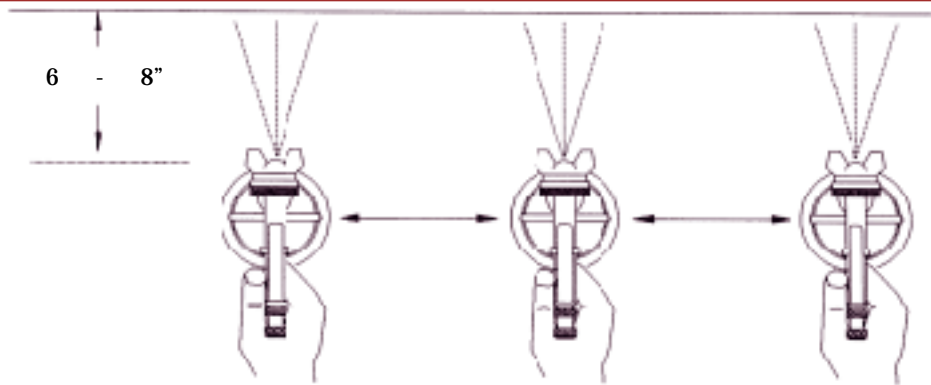
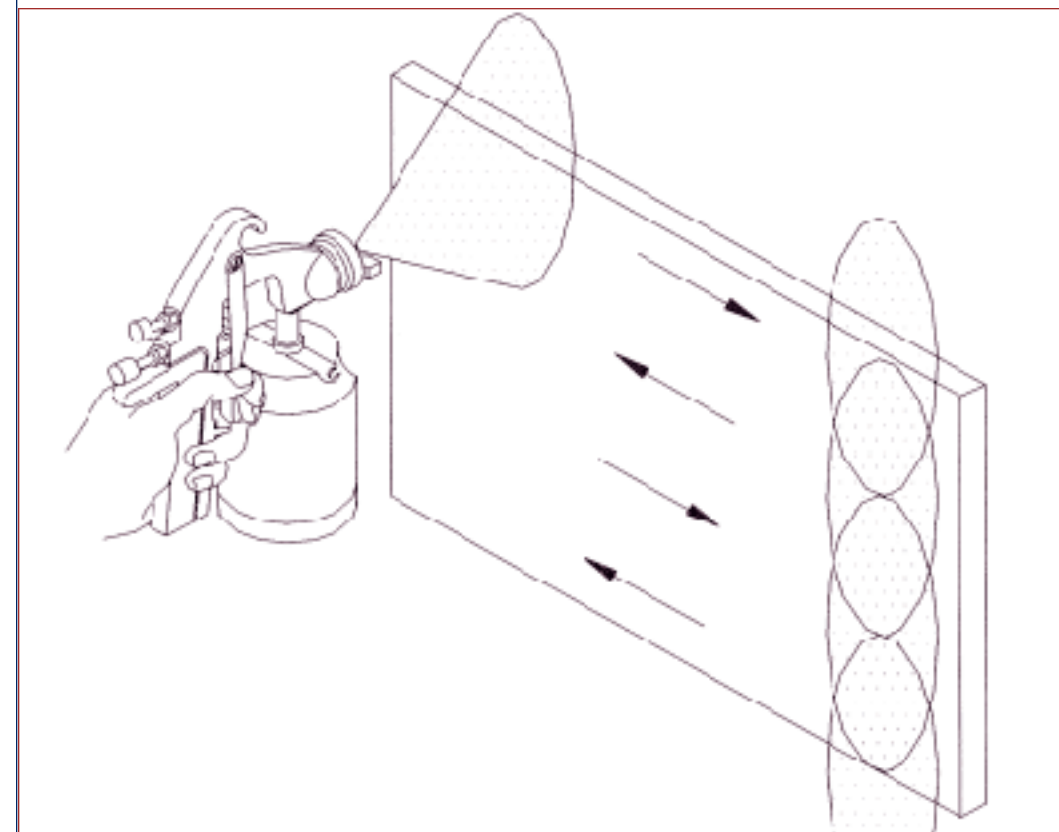

Figure 7: Proper Spray Distance and Technique
Figure 8: 50% Overlap Technique
**F.** The spray gun should be held at a distance of 6 - 8" from the substrate, and this distance should be maintained with each stroke (Figure 7). In general, the painter should use a 50 percent overlap for each pass, feathering the trigger at the beginning and end of each stroke (Figure 8). This technique may need to be altered slightly when applying high-metallic, high-solids basecoats and for some three stage systems to avoid striping. The speed of each pass should be a comfortable pace for the technician while maintaining a full wet coat, free of sags or runs.